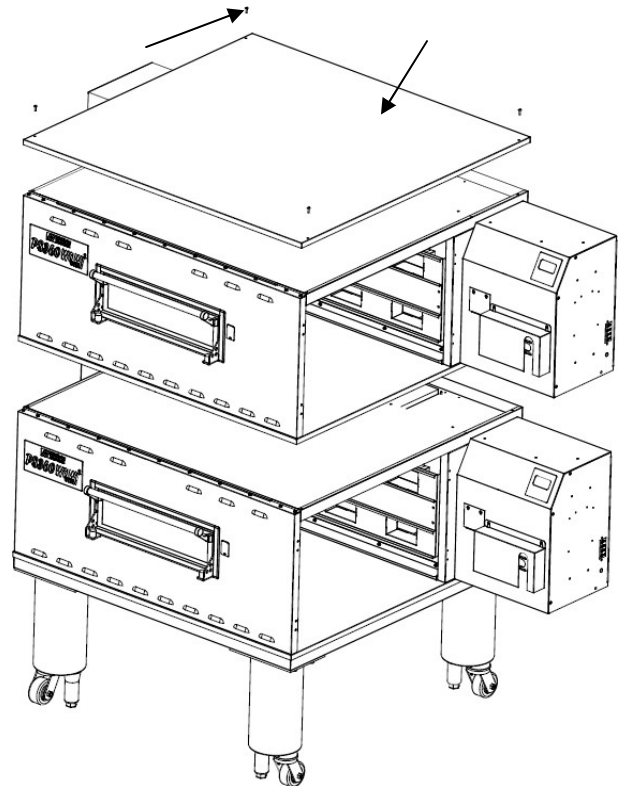

Figure 2-10. Top Panel Installation
3. Install the top panel using the screws included in the base pad kit, as shown in Figure 2-10.